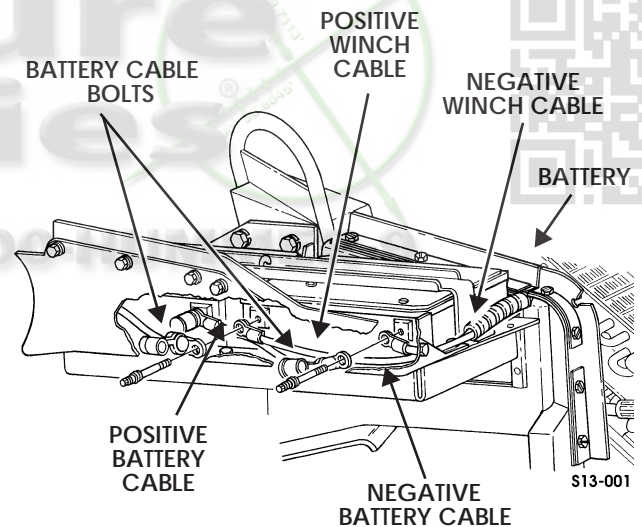

Figure 13-1: Winch Cables On Battery
2. Remove two battery cable bolts, battery cables, and winch cables from battery (Figure 13-1).
7. Install two winch cables and battery cables on battery with two battery cable bolts (Figure 13-1).